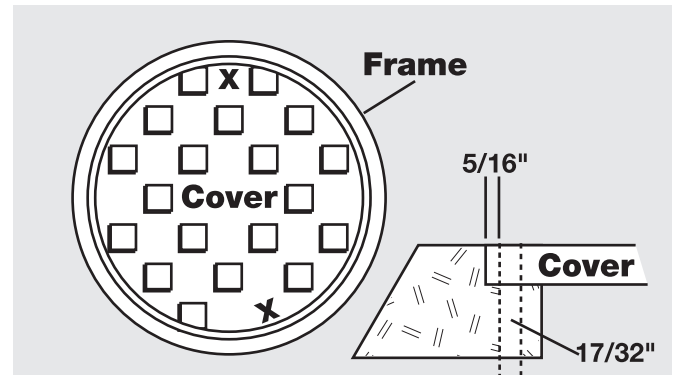

Figure 1
- Drill location approximately 5/16" from edge of cover. (See Figure 1)
STEP 6: Repeat Steps 2 thru 5 for a second bolt to secure cover. Second hole should be 170° from first hole. (See Figure 1, marked "X")